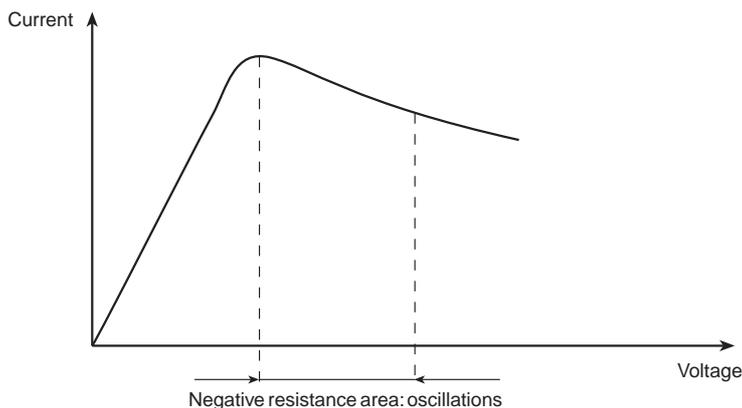

Figure 3-1
The «current-voltage» response curve of the Gunn diode has a part with a negative dynamic range (see Fig. 3-1)
- Plot the «current-voltage» characteristic of the Gunn-effect diode and compare it to the one in figure 3-1.